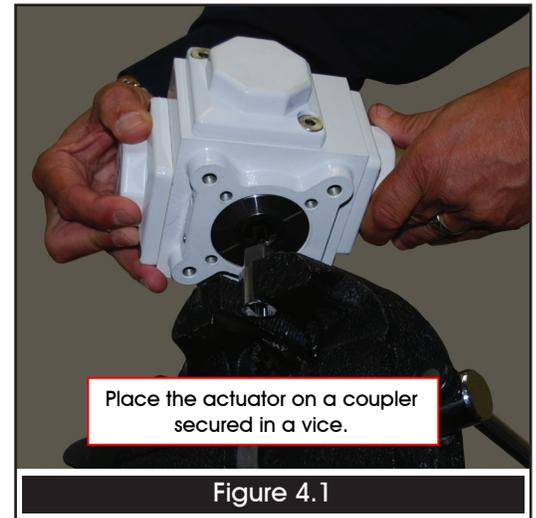

Figure 4.1
**NOTE:** Place the actuator on a coupler, and secure it in a vice to facilitate the disassembly and assembly procedures! (Figure 4.1)
9. Place the assembled actuator body on the coupler in the vice (Page 4 - Figure 4.1).